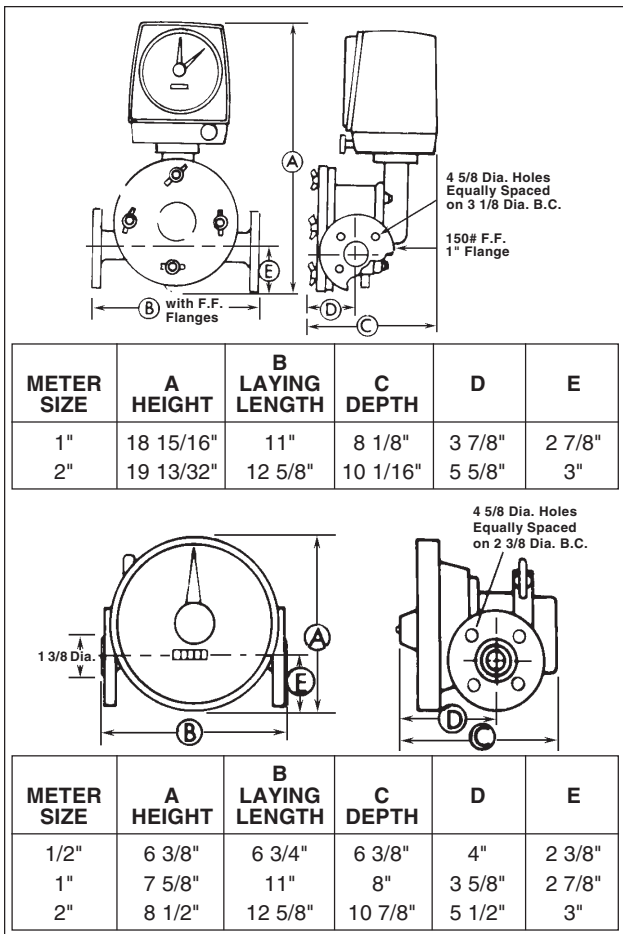

Figure 2-2.
B. INSTALLING THE METER. The oscillating piston meters are designed for in-line installation. Examples of dimensions of the meter models, including laying lengths, are shown in Figure 2-2. After reviewing the applicable dimension requirements, perform the following procedures: